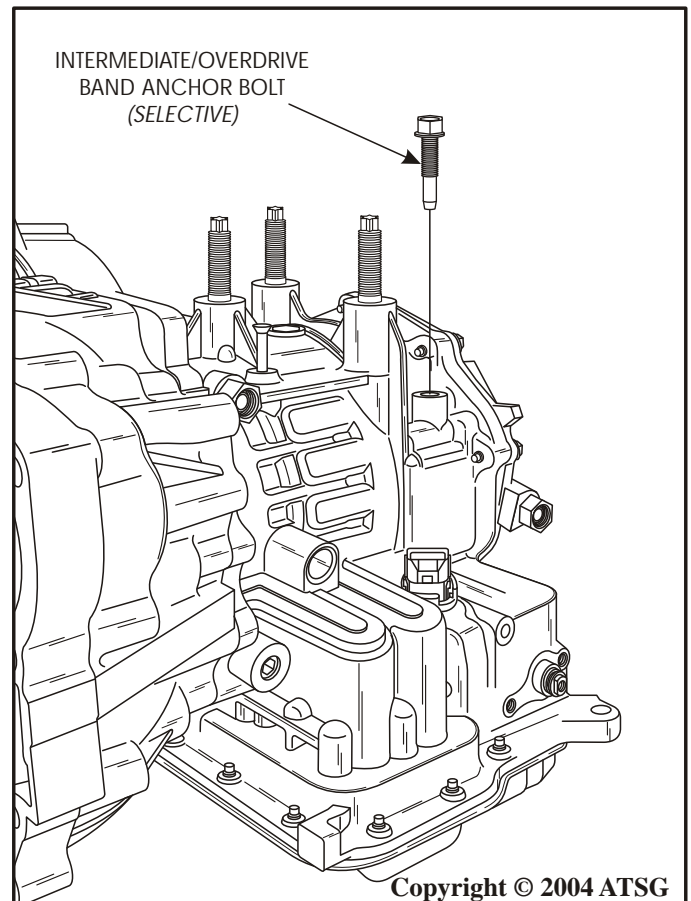

Figure 177
51. Temporarily install the 2-4 band anchor bolt, as shown in Figure 177.